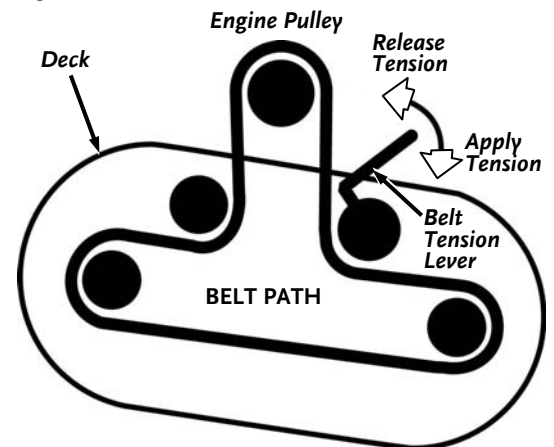

Figure 12
2. Push and hold the Belt Tension Release Lever towards the center of the machine. (**Figure 12**).